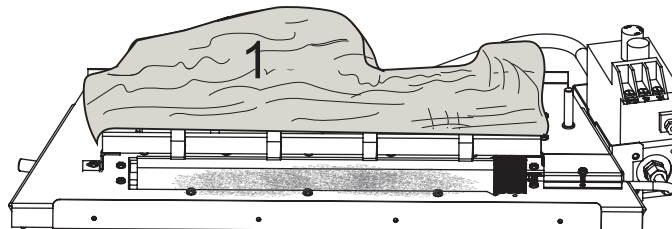

Figure 6.11 - Log #1 Placement
2. Hold log #1 with the pointed end to the left. Place log #1 behind the grate by positioning the two pin locator holes on the bottom of the log over the pins behind the grate. Push the log down to make sure it rests flat over the metal base. See Figure 6.11.